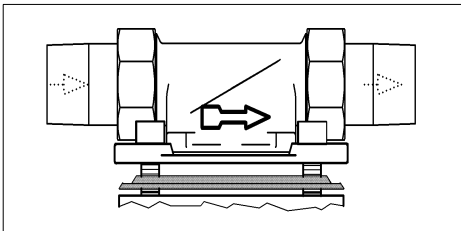

Fig. 1: Built-in rotary flange
- direction of flow (see fig. 1)